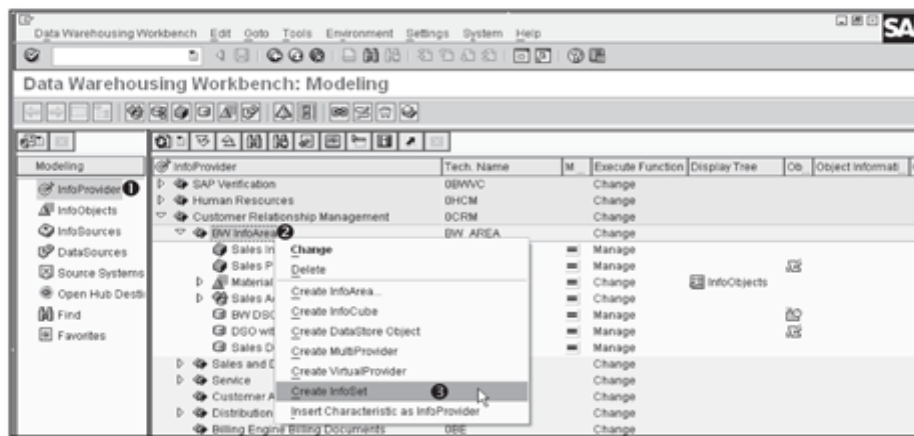

Figure 6.17 Creating the InfoSet
To begin, start Data Warehousing Workbench (DWW) using Transaction RSA1. Under Modeling in the Navigation section, select InfoProvider, as shown in ❶ of Figure 6.17. InfoSets are created under InfoArea. From the tree section of the screen, select the InfoArea you want to attach your InfoSet to (❷). In this example, InfoArea BW_AREA is selected.